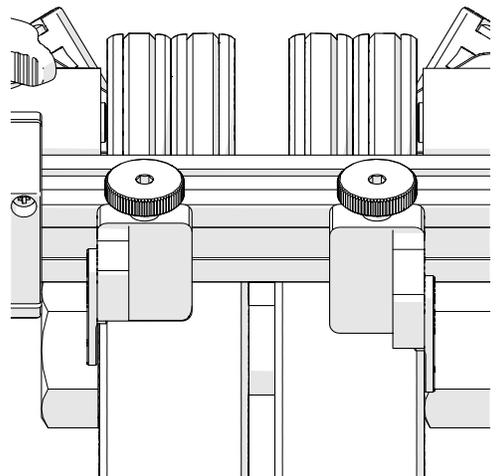

Fig. 29 - Position guides along outside edge of flange
6. It is also possible to position the guides along the outside of the flange (Fig. 29). This can be useful when the guides can not fit between the two flanges.